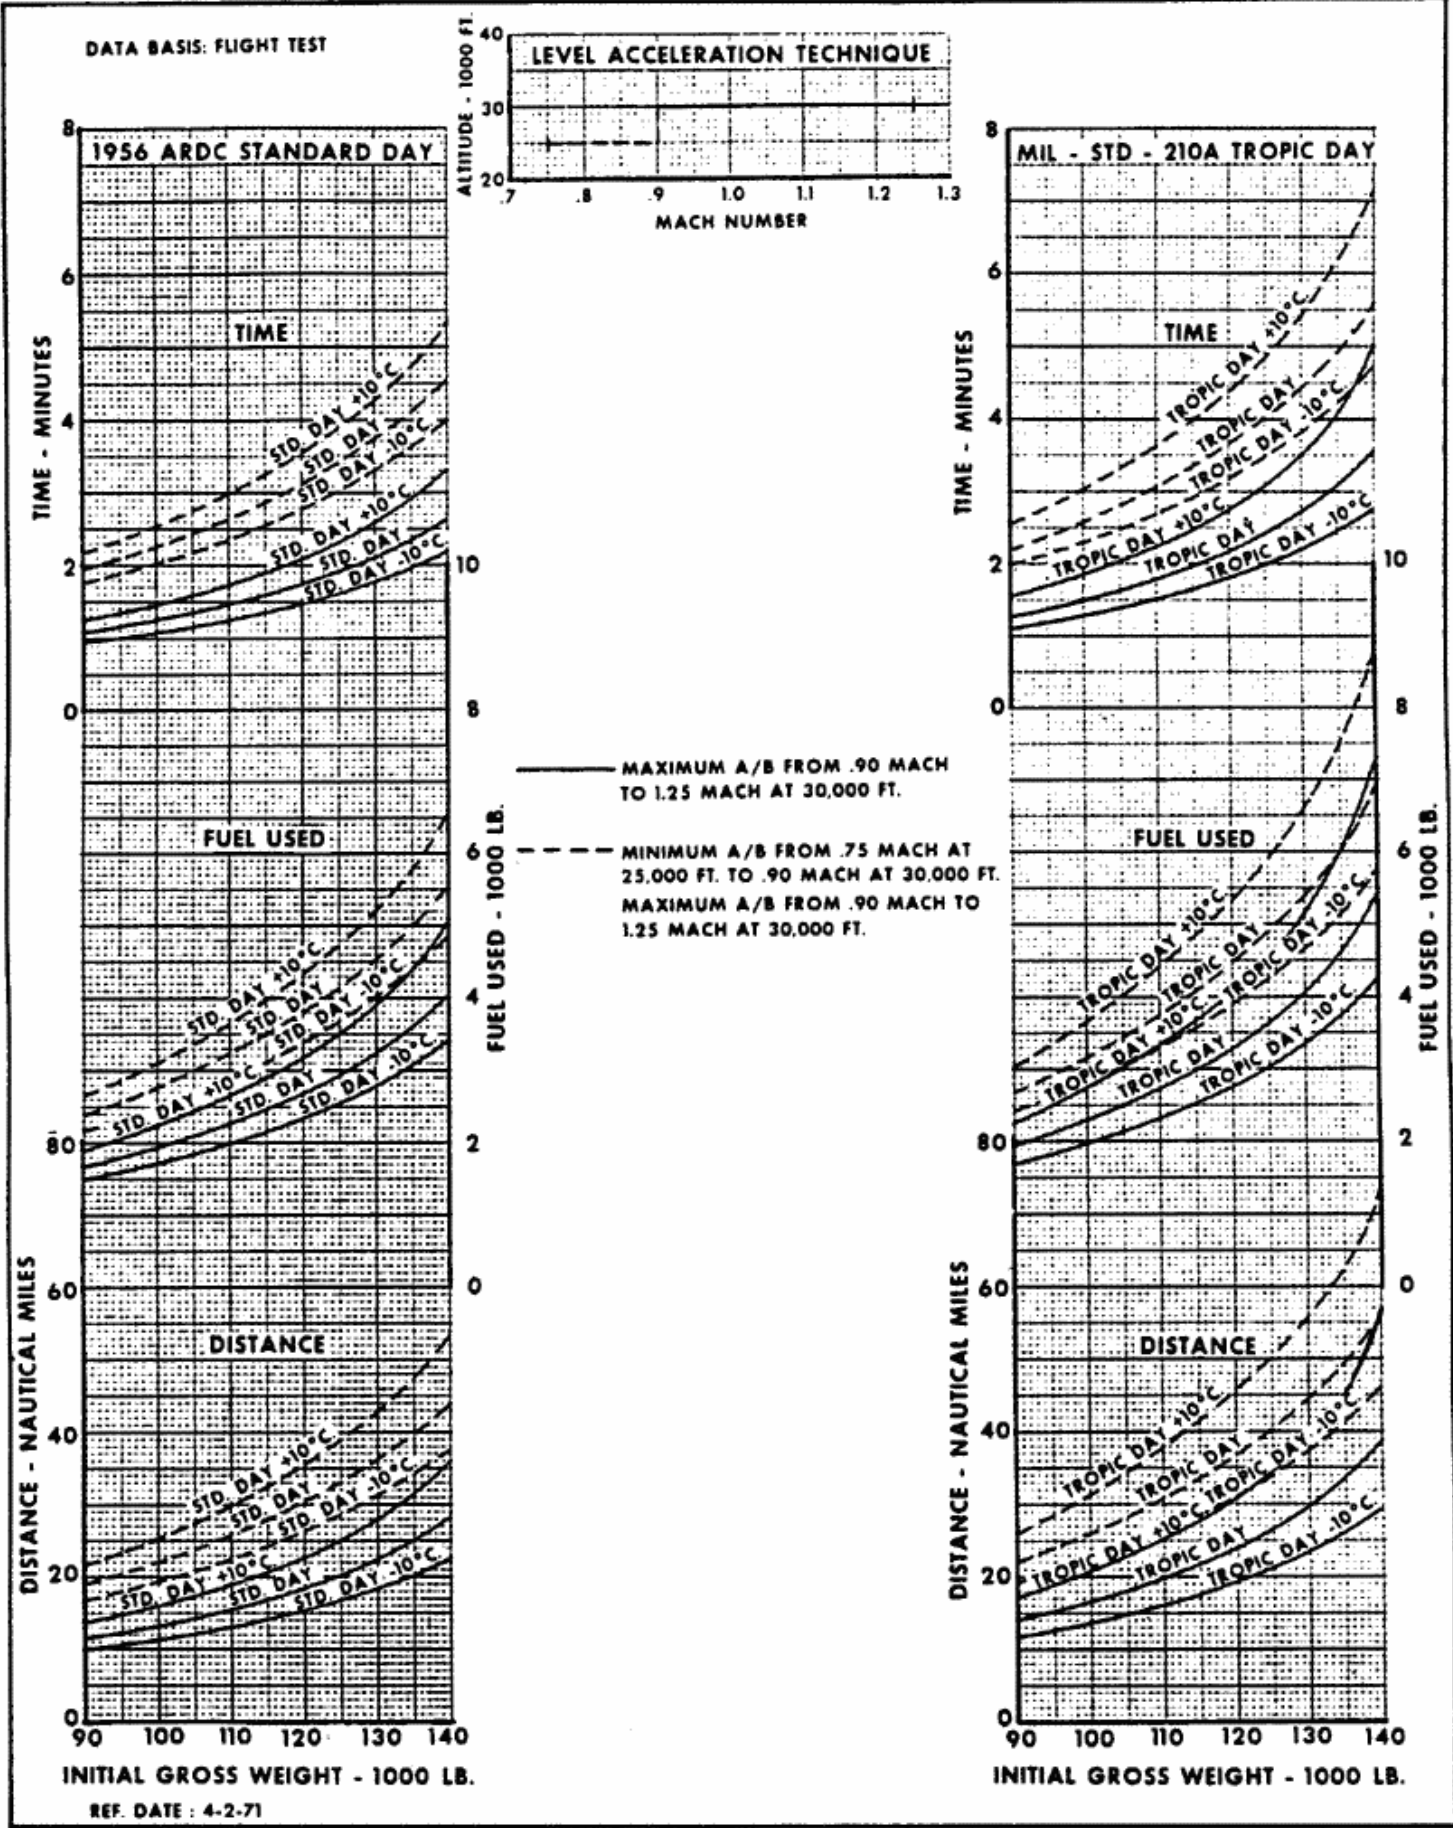

Figure A3-6
2. Level acceleration: Accelerate from Mach 0.90 to Mach 1.25 at 30,000 feet. (See Figure A3-6.)